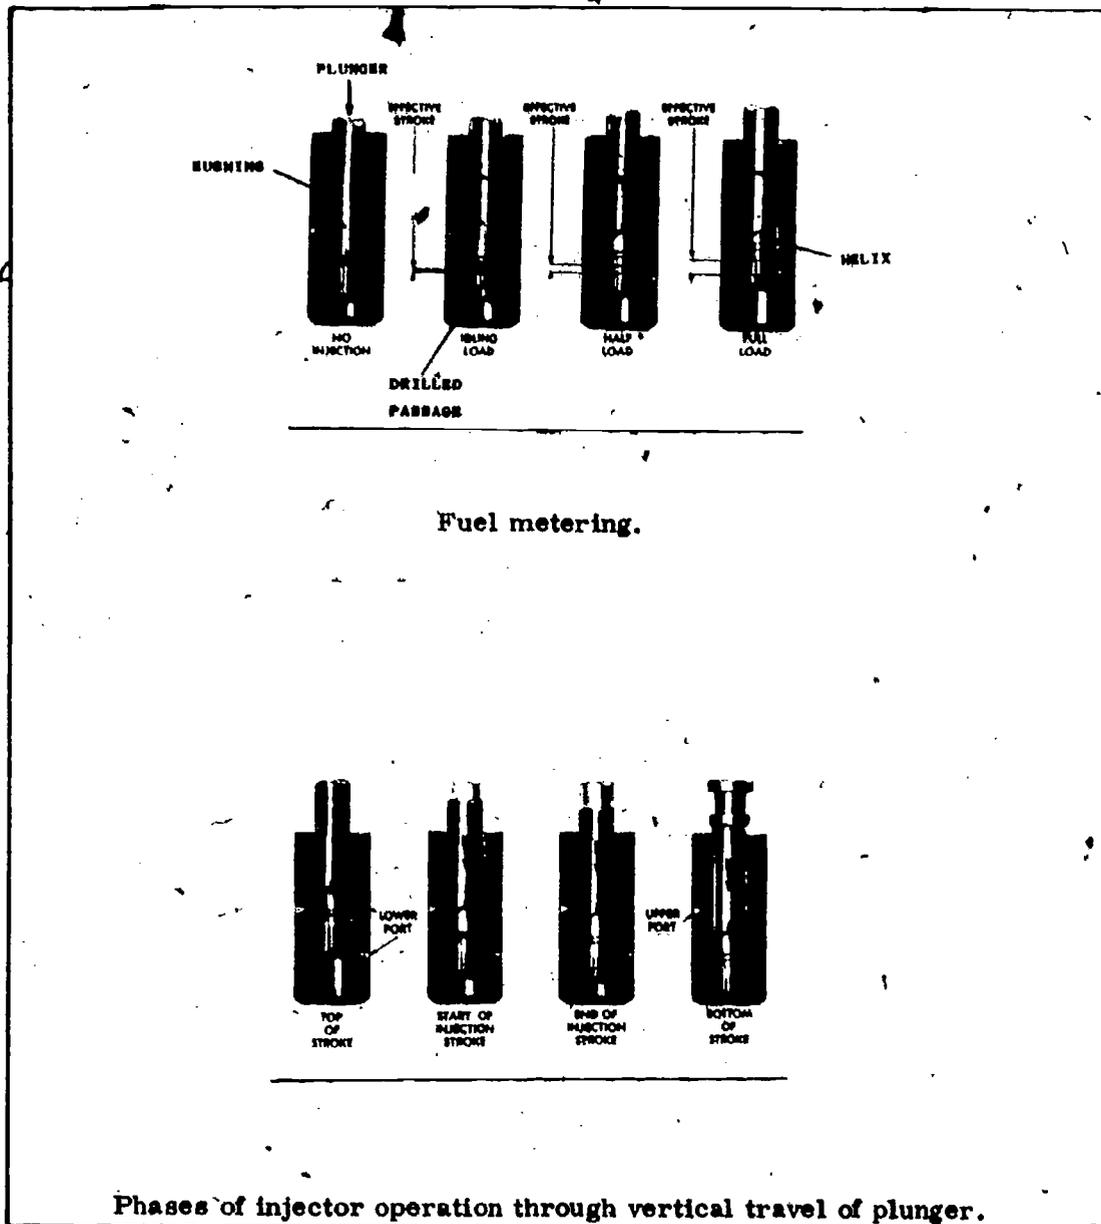

Fig 2-21. Function of injector plunger.
- a. **Metering (fig 2-21).** The amount of fuel that is forced into the cylinder is controlled by a plunger with an upper and lower helix machined on its lower end. Vertical movement of the plunger is caused by a rocker arm; the plunger is rotated by a control rack. Both the vertical stroke and the rotating motion determine the amount of fuel that is sprayed into the cylinder. When the plunger is up, fuel fills the spill deflector and other open spaces surrounding it. The fuel flows through the upper port in the bushing through the helix and through a drilled passage to the area below the plunger. The excess fuel flows on through the lower port in the bushing and back to the supply tank. The rocker arm forces the plunger down and closes the lower port; the upper port remains open depending upon the position of the helix. Because fuel cannot be compressed, it flows back through the drilled passage until the upper port is closed by the plunger. When both ports are closed by the helix, fuel that is trapped in the bushing will be forced into the engine as the plunger moves down. As soon as the lower helix opens the lower port, pressure is relieved and injection is stopped. In figure 2-21, note how the effective stroke of the plunger is controlled by rotating the plunger. Also note the phases of injection operation. (NOTE: The vertical stroke is not changed.) When the rocker arm pressure is released, a spring returns the plunger to the top and a new supply of fuel enters.